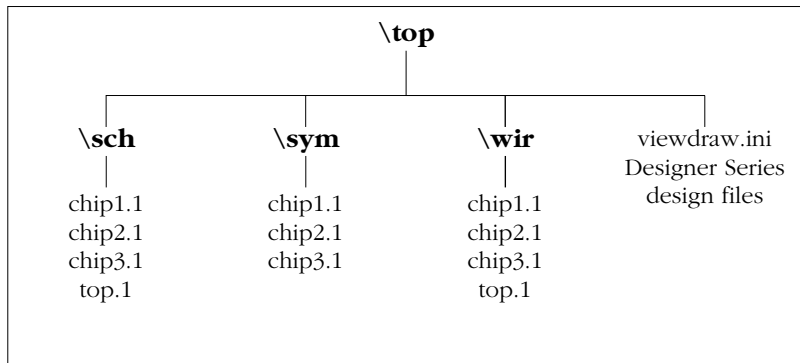

Figure 4-6. Directory Structure for Multichip Simulation
1. **Create a top-level schematic and instantiate the individual chip designs.** This example assumes there are three designs with instance names “chip1,” “chip2,” and “chip3.” The name of the top-level schematic is “top.” Figure 4-6 depicts the directory structure for this example. Names written in normal text represent file names and those in bold text represent directory names.